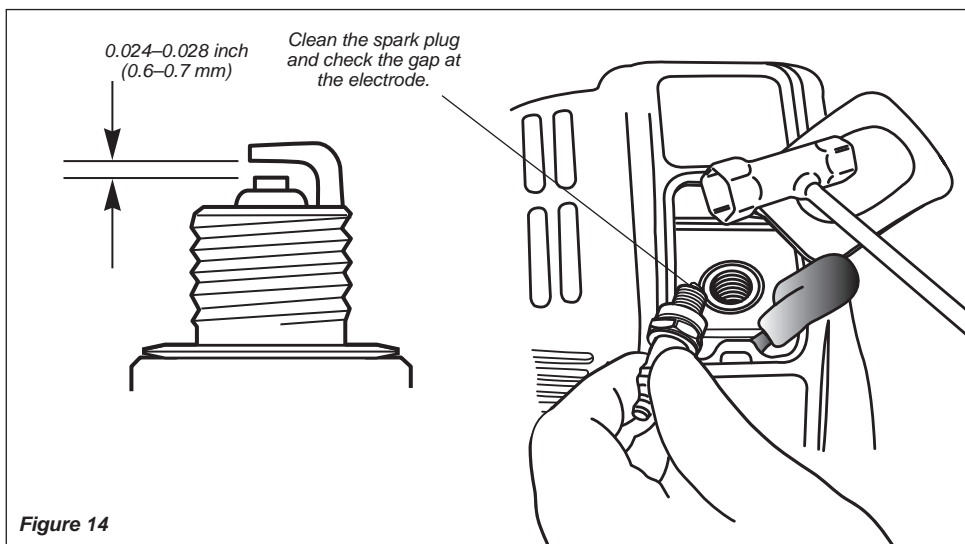

Figure 14
- Remove and clean the spark plug. Adjust the spark plug electrode gap to 0.024 - 0.028 inch (0.6 - 0.7 mm). If the spark plug must be replaced, use only an NGK CMR5H or equivalent resistor type spark plug of the correct heat range. See Figure 14.